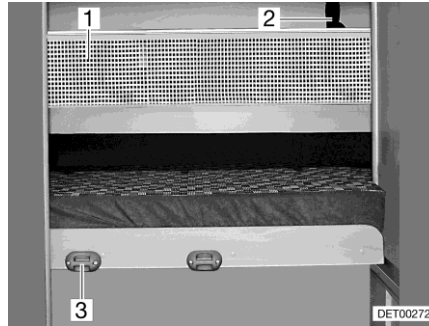

Fig. 75 Safety net
*Attaching:* ■ Attach the access ladder with the rails to the holder (Fig. 75,3) on the panel.
**Safety net** The safety net (Fig. 75,1) is stored as standard between the mattress and slatted frame. Do not use the safety net until the person is already in bed.
*Setting up:* ■ Fasten the retaining straps (Fig. 75,2) to the holders on the ceiling.